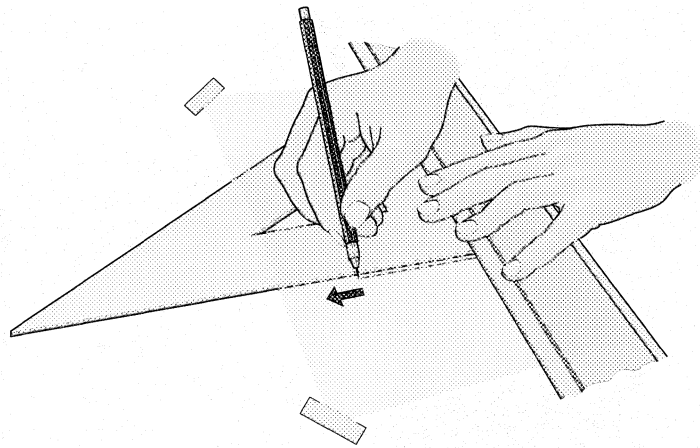

FIGURE 6.59 Drawing Vertical Lines
**Vertical lines** are drawn with the vertical edge of any triangle (or the vertical scale of the drafting machine). Position the straightedge and the triangle at the desired spot, with the vertical edge of the triangle to the left (Fig. 6.59). Then place the pencil point at the desired position of the vertical line and move the triangle up to the point, just touching it. This is done by holding the straightedge with the left hand and forearm and positioning the triangle with